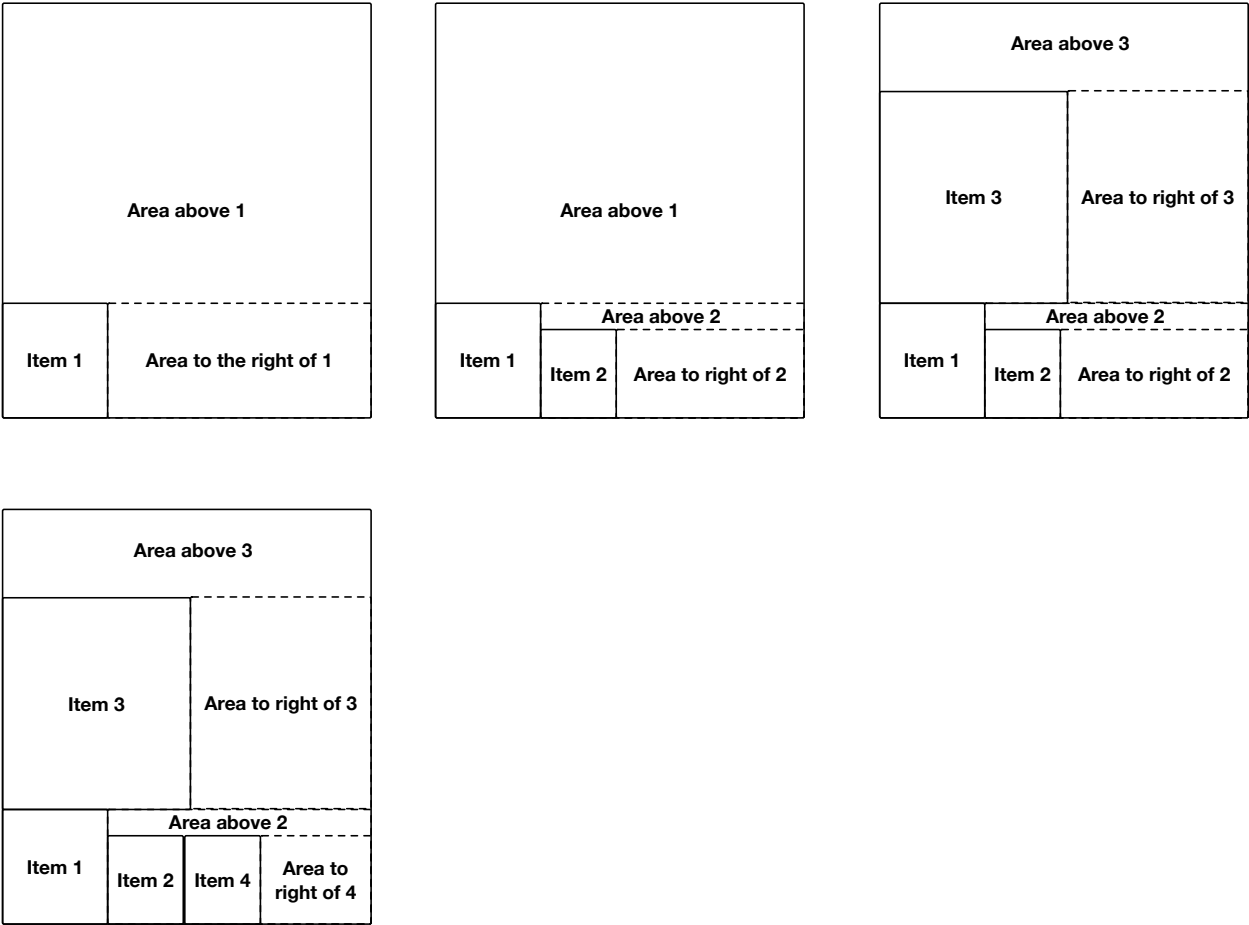

Figure 1: An example of packing
The basic approach we'll take is very simple. We'll place an object in the bottom left corner of our area. We'll then subdivide our area into two, namely an area to the right of our object, and an area above it. We'll then try fit the next item to the right of our object (not allowing it into the area above it). If it doesn't fit there, we'll try fit it in the area above. We'll repeat this for every object that fits. This is graphically shown in Figure 1. We will always try place an object to the right of placed objects before trying to place it above (note that the area above item 4 as 0 space).